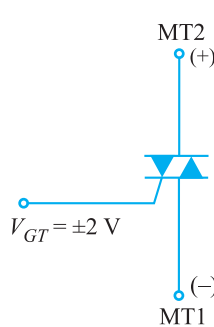

Fig. 21.14
**Example 21.3.** The triac shown in Fig. 21.14 can be triggered by the gate triggering voltage  $V_{GT} = \pm 2V$ . How will you trigger the triac by (i) only a positive gate voltage (ii) only a negative gate voltage?
**Solution.** In Fig. 21.14, the triac will be triggered into conduction for  $V_{GT} = \pm 2V$ .